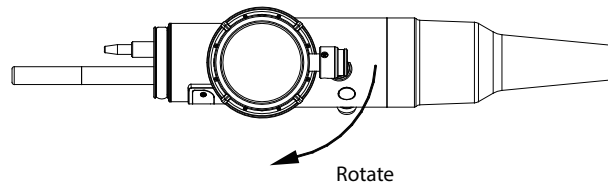

Figure 5-3 Installing the Waterproof Cap
2. Press and rotate the waterproof cap clockwise according to direction of arrow in Figure 5-3. Ensure that the waterproof cap is firmly attached to the endoscope.